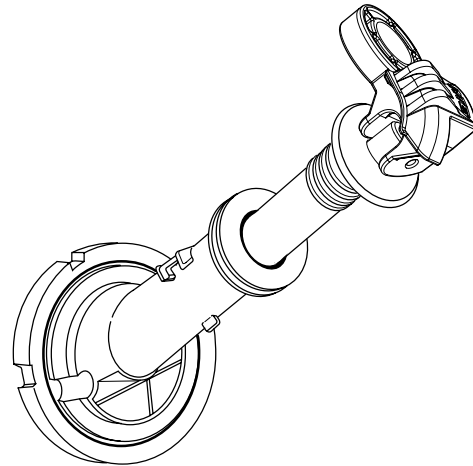

Figure 3. Draw fuse holder out 6 to 8 inches (152 to 203 mm).
- Draw the fuse holder out rapidly in one motion 6 to 8 inches (152 to 203 mm) to interrupt transformer load. (See Figure 3.)